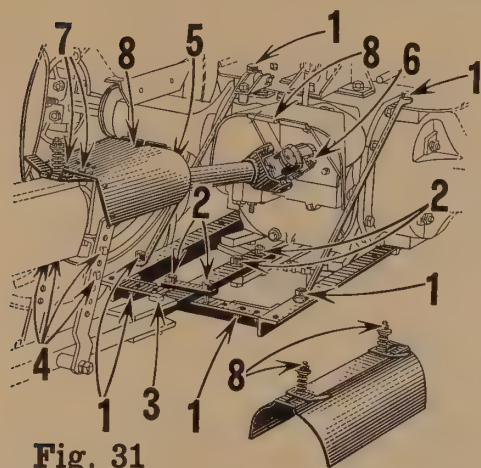

Fig. 31
1. (Fig. 31.) Bolt extension drawbar cross angle to brackets on extension drawbar side angles, L. H. and R. H., and bolt side angles to underside of tractor. Attach the two round braces to tractor platform and to extension drawbar side angles as shown.
2. (Fig. 31.) Bolt extension drawbar to swinging drawbar on tractor and clamp swinging drawbar to extension drawbar cross angle as shown.
3. (Fig. 31.) Connect Binder to extension drawbar.
4. (Fig. 31.) Adjust height of power shaft front bearing to level power line as shown.
5. (Fig. 31.) Remove tape around key in front end of telescoping pipe for power drive. Remove cap screw, lugged lock washer and notched retaining washer from front end of telescoping pipe. Slide rear universal joint onto front end of telescoping pipe and replace notched retaining washer, lugged lock washer and cap screw. Be sure to fit bent lug on lock washer into notch in retaining washer and to bend remaining lugs on lock washer over head of cap screw.
6. (Fig. 31.) Slide front splined universal joint onto take-off shaft on tractor and secure in place with clamp bolt and cotter.
7. (Fig. 31.) Bolt power shaft shield to **rear** set of holes in power shaft front bearing housing.
8. (Fig. 31.) Attach universal joint and pipe connection shield to take-off shaft shield on tractor and to shield on power shaft front bearing as shown.